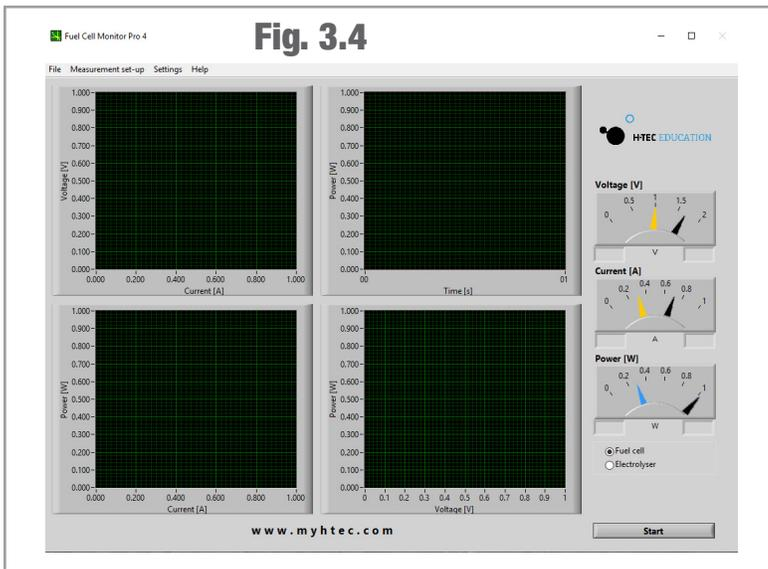

Fig. 3.4
- The FCM now automatically records the characteristic curve of the fuel cell from the no-load voltage to the short-circuit current, graphically displays the values and is again in standby mode afterward (see Figure 3.4). The measurement can be canceled at any time using the "Cancel" button.